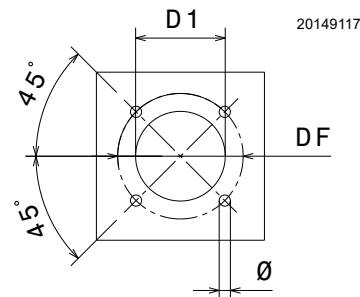

Fig. 14
Pierce the closing plate of the combustion chamber, as in Fig. 14. The position of the threaded holes can be marked using the thermal insulation screen supplied with the burner.
- Fit the entire burner onto the boiler hole prepared previously (Fig. 14), and fasten with the screws supplied.